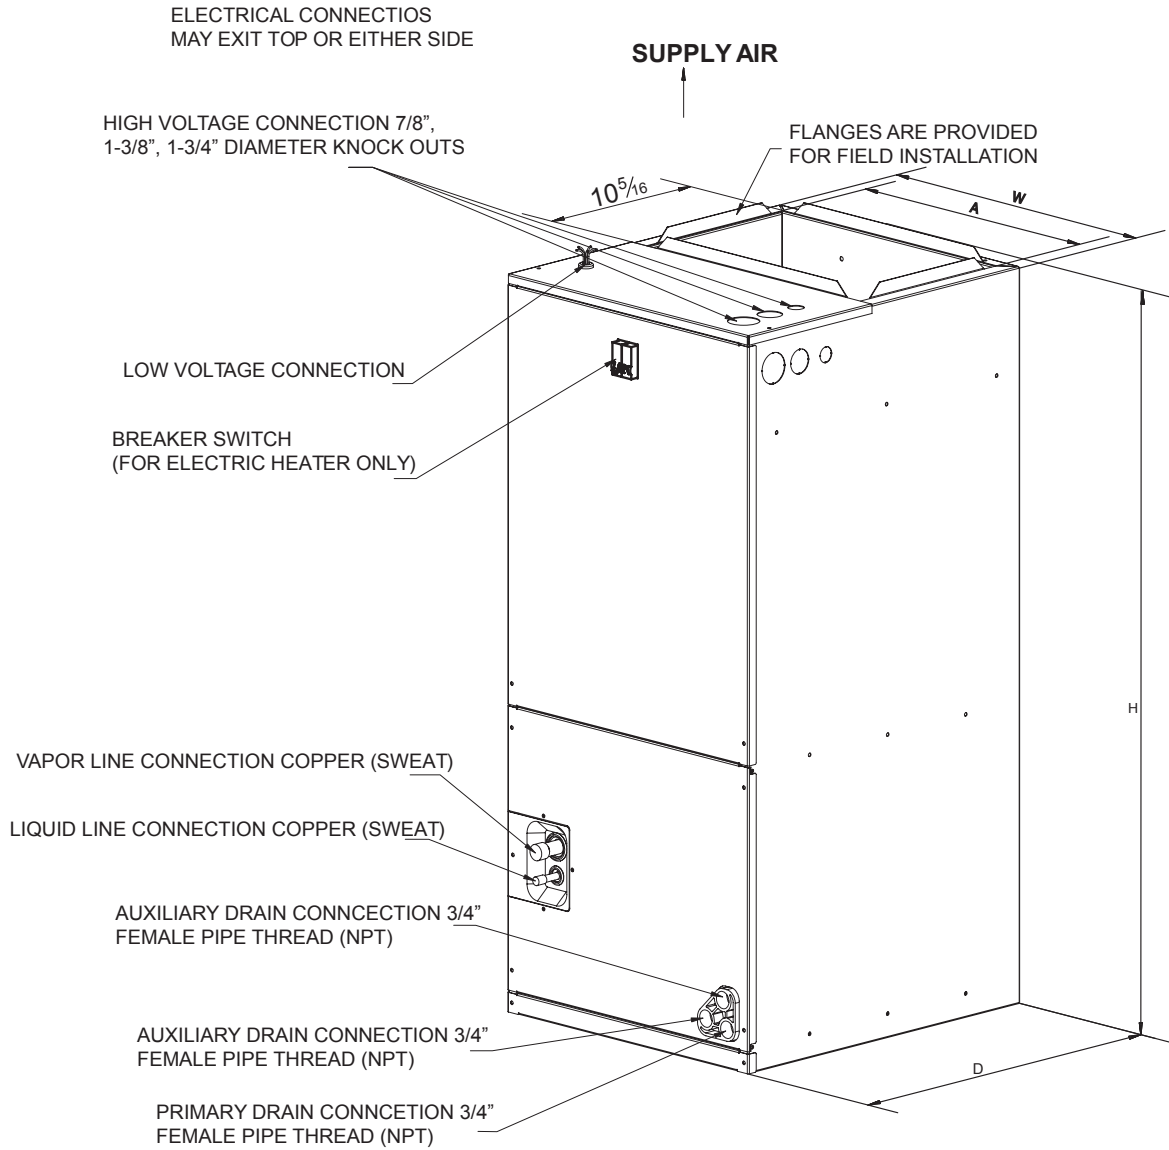

Fig. 1 Dimensions
Duct leaks can create an unbalanced system and draw pollutants such as direct, dust, fumes and odors into the home causing property damage. Fumes and odors from toxic, volatile or flammable chemicals, as well as automobile exhaust and carbon monoxide (CO), can be drawn into the living space through leaking ducts and unbalanced duct systems causing personal injury or death (see Figure 1).
See Fig. 1 on Pg. 7
- Vertical Upflow configuration is the factory set on all models (see Fig 1).
Torque applied to drain connections should not exceed 15.ft.lbs.(see Fig.1&2)